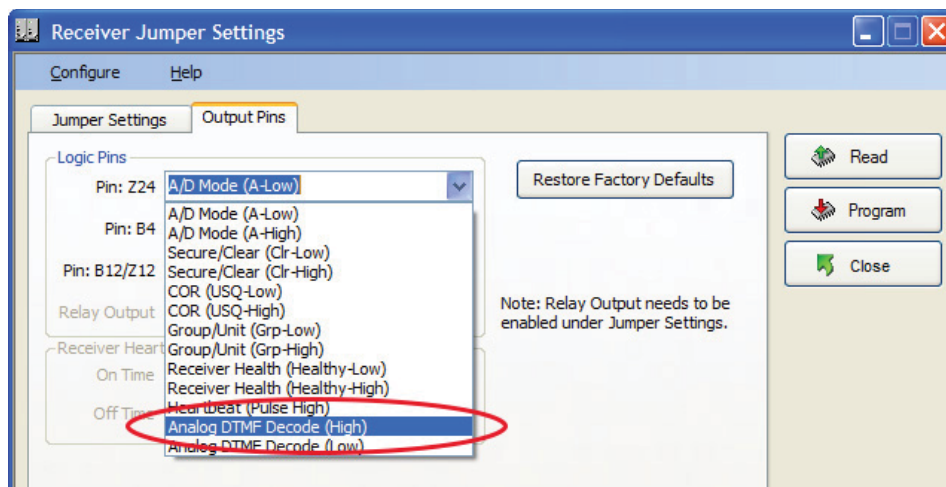

Figure 4: DTMF Setup Output Pin Selection
7. Select and Program "Analog DTMF Decode (High)" for Pin Z24 as shown in Figure 4.